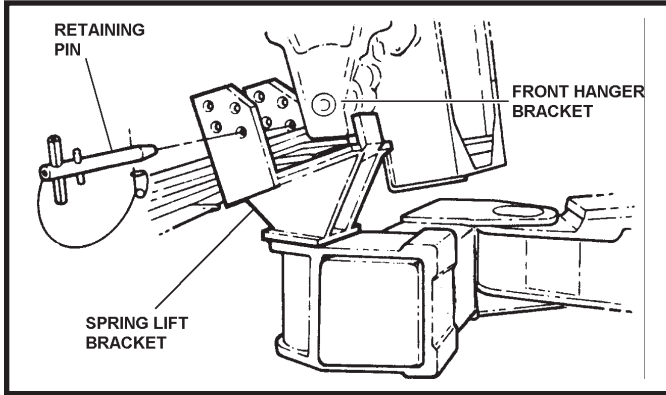

FIGURE 4A.9
- (i) Insert retaining pin through lowest unobstructed hole of spring lift bracket and secure with safety pin. Refer to Figure 4A.11.